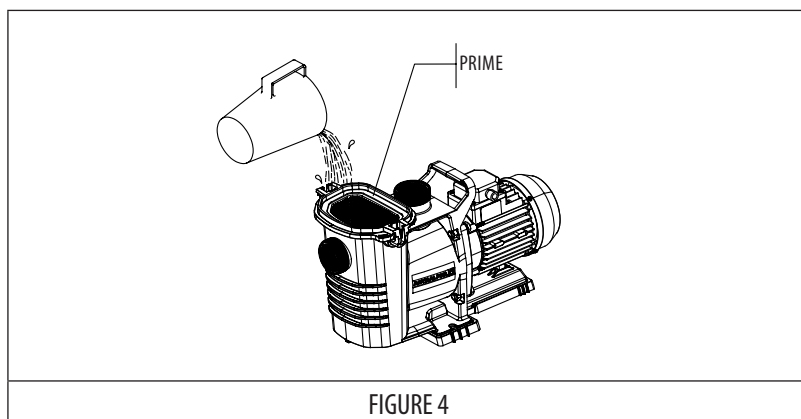

FIGURE 4
- As the pump is self-priming, the strainer must be filled with water before starting it up for the first time in order to facilitate the process. (See FIGURE 4)